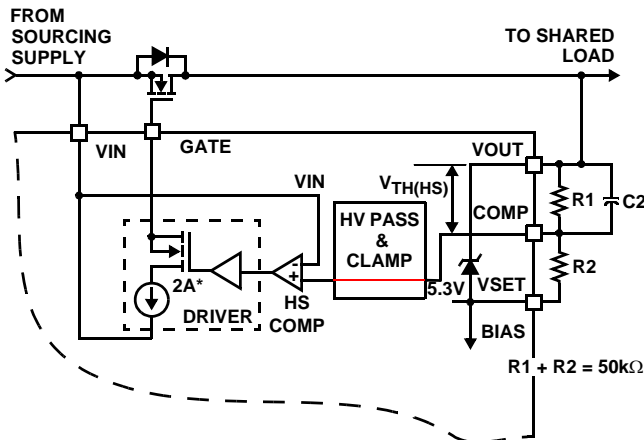

FIGURE 3. HS COMPARATOR
There is a High Speed (HS) Comparator used for fast turn-off of the ORing MOSFET to protect the common bus against hard short faults at a sourcing power supply output (refer to Figure 3).